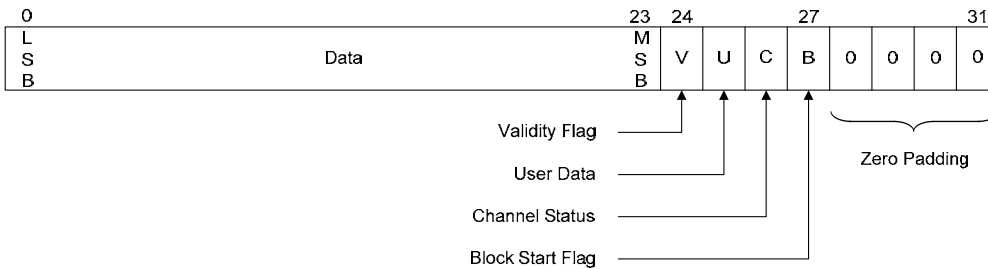
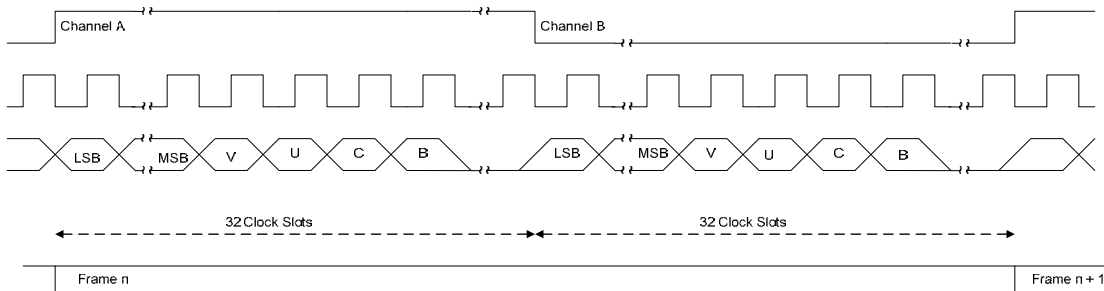

Figure 87: AES3 Sub-frame Timing Diagram
Figure 88: AES3 Stream Timing Diagram
- An AES3 stream if the I2SOUTMODE[1:0] control is set to 0x3 (refer to Figure 87 and Figure 88). Note that AES3 is also referred to as raw SPDIF. Each AES3 stream may encapsulate stereo L-PCM audio data or multichannel non L-PCM audio data (e.g. 5.1 Dolby Digital).
- An AES3 stream on each HBR interface output pin (refer to Figure 87 and Figure 88). The following configuration is required to output AES3 streams: